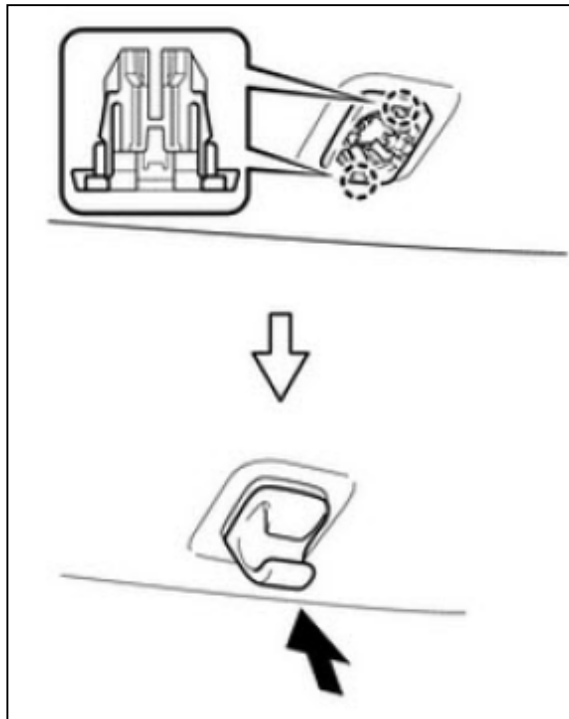

Figure 20
20. Attach the 2 claws. Push in the visor holder to install it. See Figure 20.